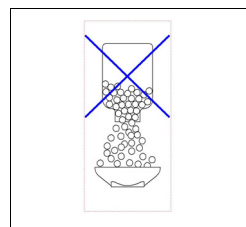

Fig. 3 – Incorrect Pour
- **Do not pour tablets directly into the funnel hole** (Fig. 3) as this may cause counting errors.